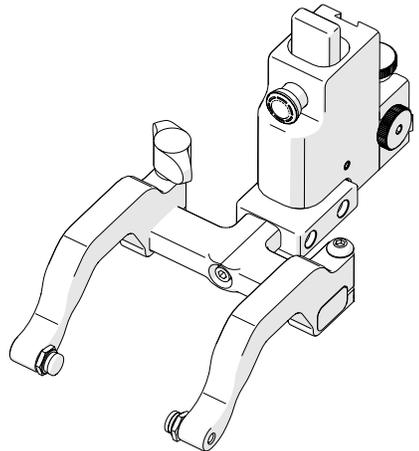

Fig. 59 - 90° probe holder positioning
2. Orient the yoke to the front of the probe holder and screw the yoke into the threaded hole provided (Fig. 59).